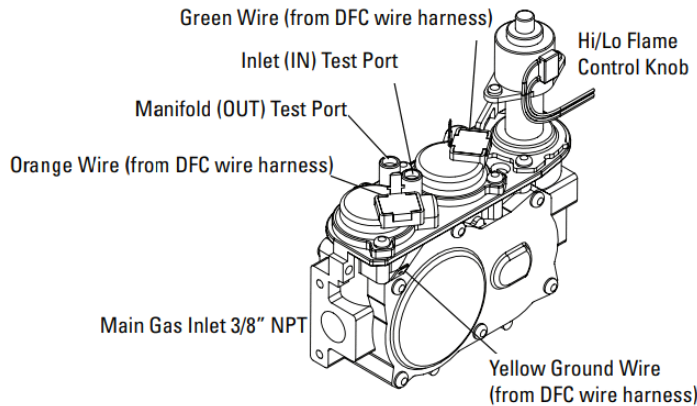

FIGURE 40
- 11) Plug the spade connectors into the module according to the below wiring diagram (**Figures 40 & 41**), insert the pilot tubing into the right side of the valve and, using a wrench, tighten the nut so that the pilot tubing cannot be pulled out.